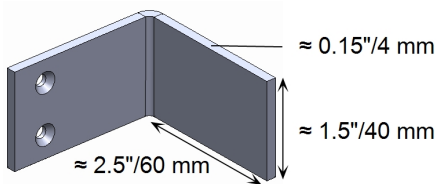

Figure 3: Example of antenna bracket
2. Connect the antenna cable to the cellular Plug-in and tighten manually (as shown in *Figure 3*).